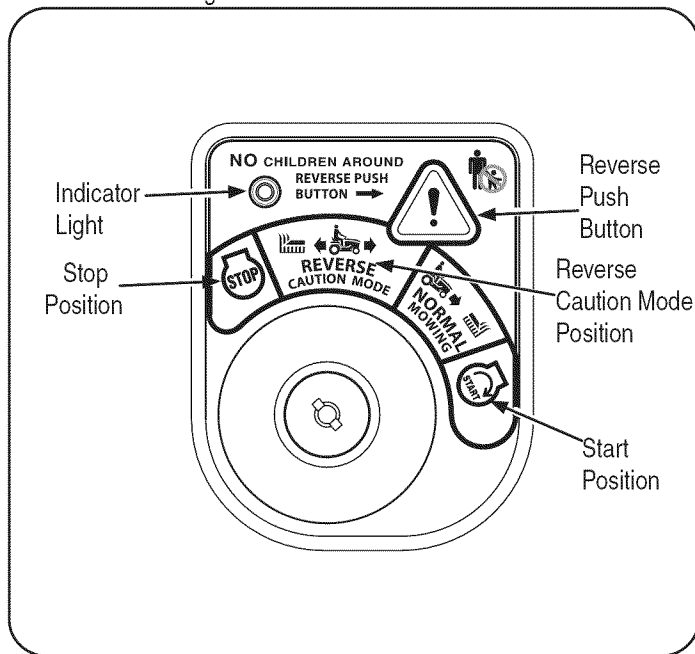

Figure 4
2. Turn the key from the NORMAL MOWING (Green) position to the REVERSE CAUTION MODE (Yellow) position of the key switch module. See Figure 4.
3. Depress the REVERSE PUSH BUTTON (Orange, Triangular Button) at the top, right corner of the key switch module. The red indicator light at the top, left corner of the key switch module will be ON while activated. See Figure 4.